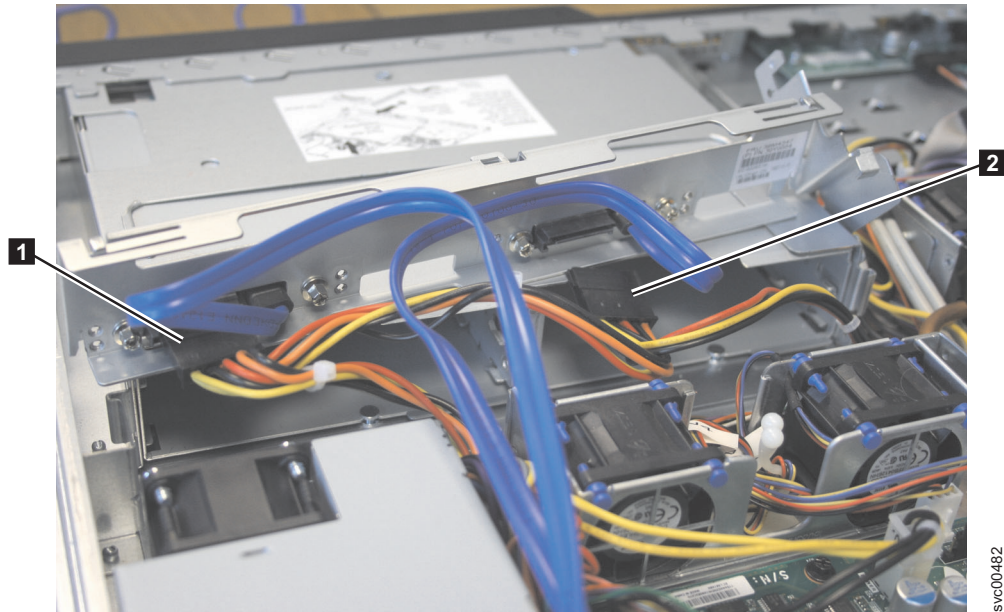

Figure 129. SAN Volume Controller 2145-8A4 power supply connectors
2. Connect power cable connectors P2 **1** and P3 **2** to the replacement back plate, as shown in Figure 129.